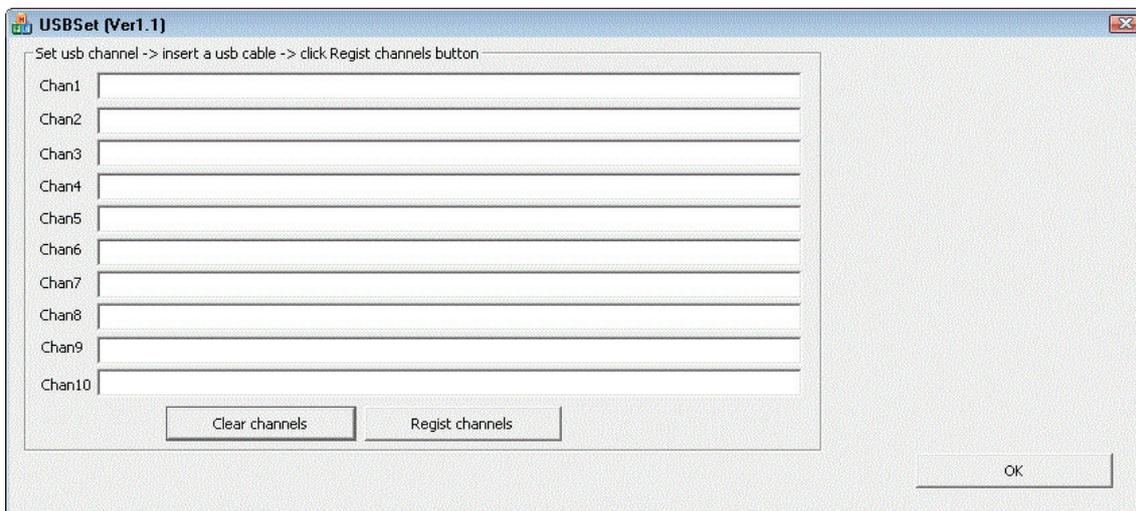

Fig. 7-10
- ② When you turn on the camera on the screen display in **Fig 7-10**, it will be connected to USB Channel1 path or other Channel path.